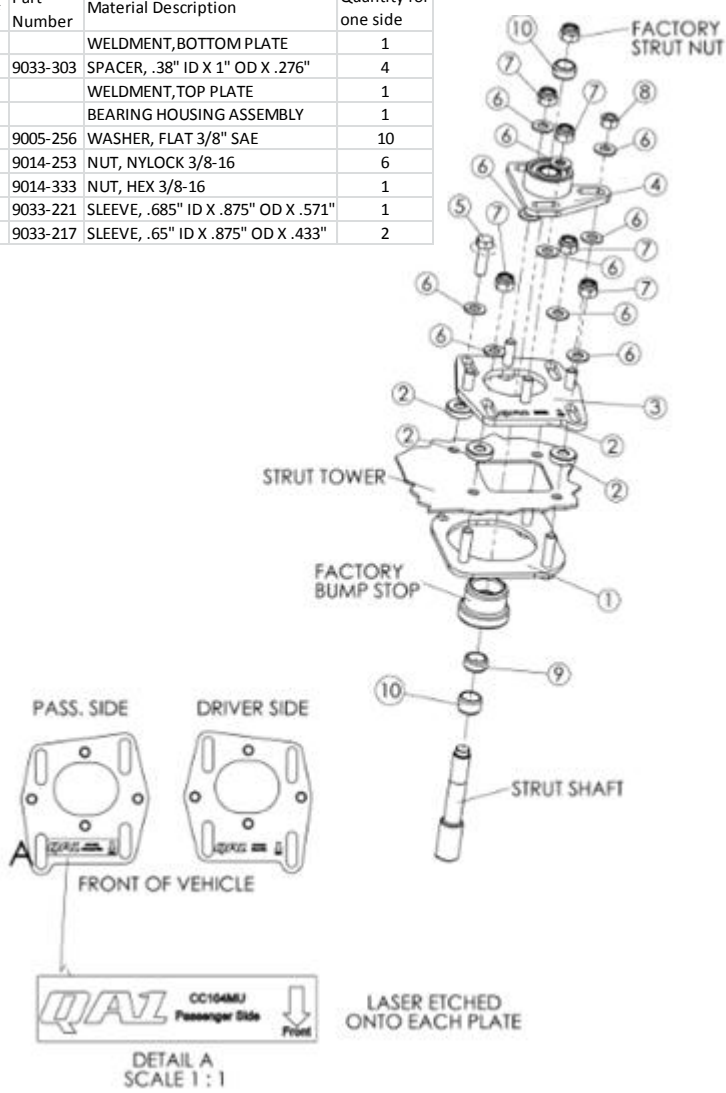

Figure 1
10. Check **Figure 1** to identify the driver's side and passenger's side bottom plates.
15. Install the bottom plate beneath the strut tower with bolts protruding upwards through the factory mounting slots (see **Figure 1**). Make sure the bottom plate bolts move freely in the adjusting slots of the strut tower. If not, file the slots until they do.
17. Install a 5/16" thick washer over each bolt of the bottom plate. These washers will rest directly on top of the car's strut tower (see **Figure 1**).
18. Refer to **Figure 1** to identify the driver's side and passenger's side top plates.